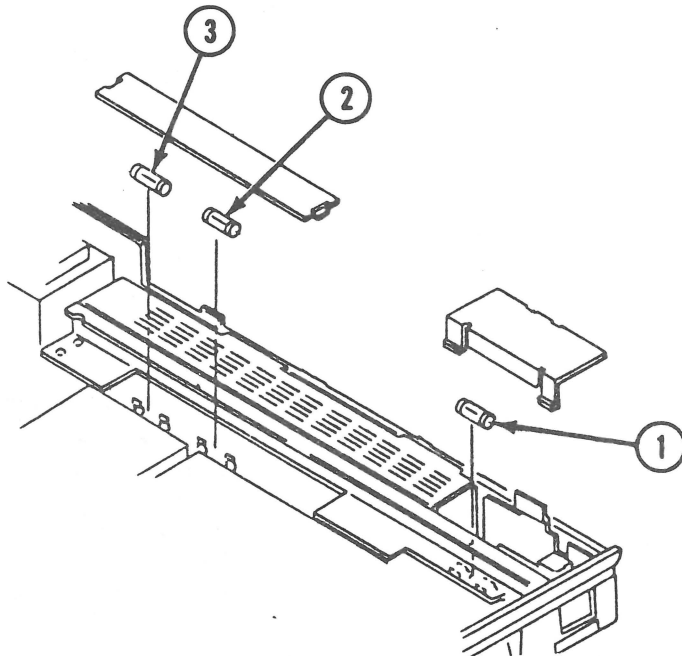

FIGURE 2
5. Remove Fuse 1 (Figure 2, #1) using a fuse removal tool, or carefully pry up one end using a small flat-blade screwdriver and pull the fuse out.
6. Remove the other two fuses—2 (Figure 2, #2) and 3 (Figure 2, #3)—the same way as in step 5.